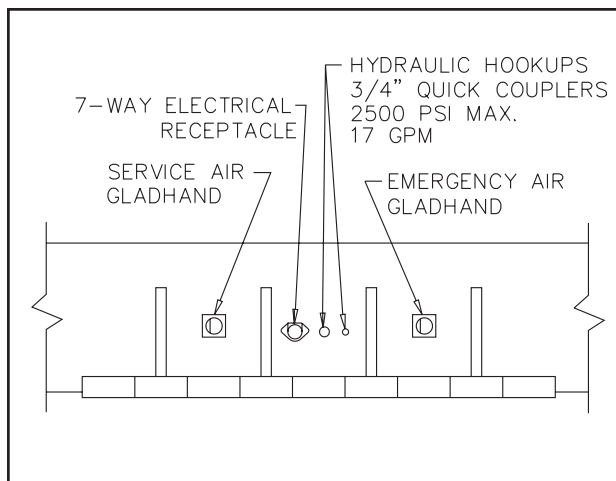

Figure 3-3 Service Hookups
3-2.3 Connect the service and emergency air hoses of the towing vehicle to their respective gladhand on the front of the semitrailer; red emergency line to the gladhand with the "**EMERGENCY**" tag, and the blue service line to the gladhand with the "**SERVICE**" tag (See **Figure 3-3**). Chock the semitrailer wheels before activating the semitrailer air supply valve in the towing vehicle. Set the parking brakes.
- 3-4.1 Connect the towing vehicle 7-pole electrical plug to the electrical receptacle on the front of the semitrailer (See **Figure 3-3**).